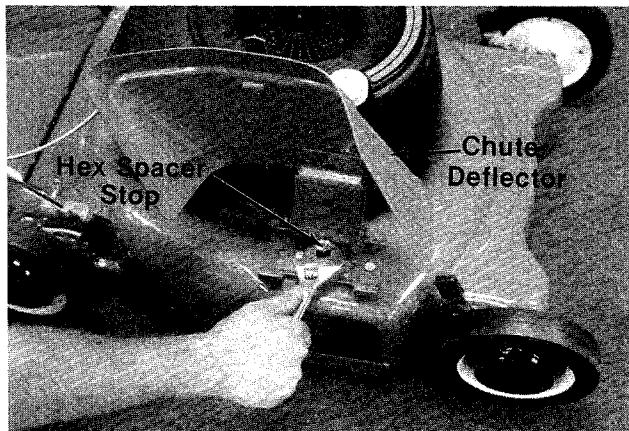
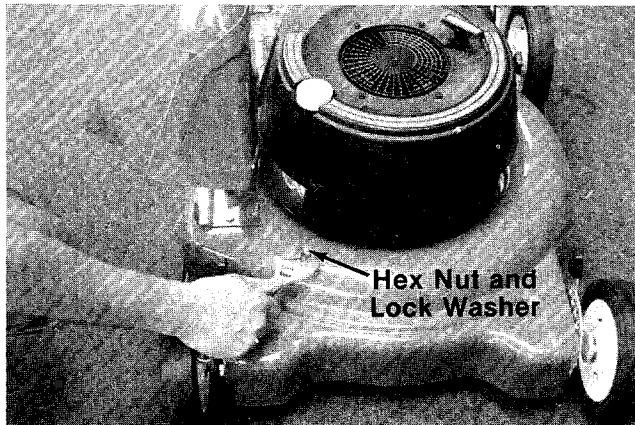

FIGURE 9.
FIGURE 10.
1. Remove the hex spacer stop and lock washer shown in figure 9. Remove the hex nut and lock washer shown in figure 10. Remove the mulching baffle.